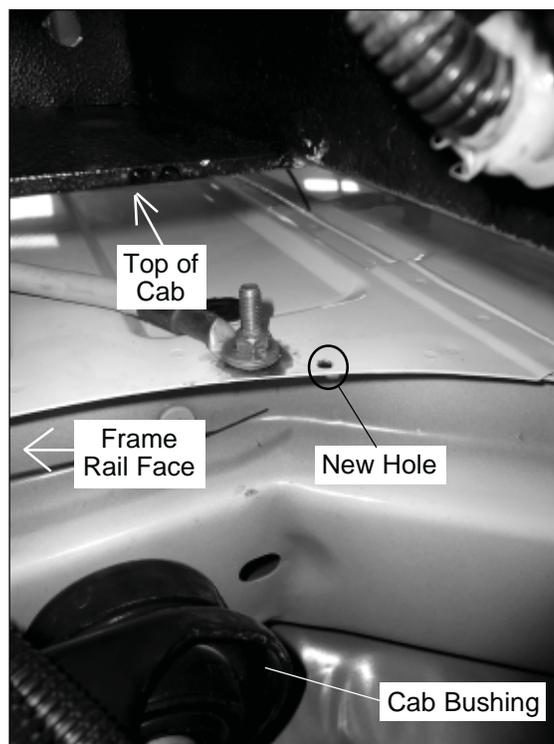

Figure 3 — Hole On Bottom Rear Lip Of Cab (looking up from under chassis)
7. Drill a $\frac{5}{16}$ " diameter hole on the bottom rear lip of the cab, 1 inch from the bottom edge (refer to Figure 3). This hole should be outside of the cab bushing. The hole location should be approximately 6" from the face of the frame rail.